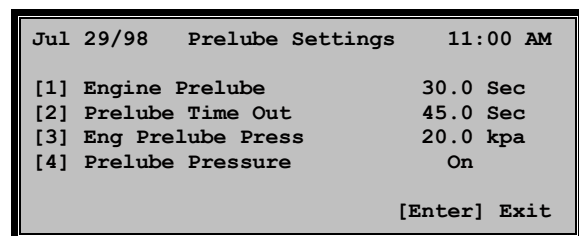

Figure 2–27
- (b) The PRELUBE SETTINGS screen (Figure 2–27) will be displayed.